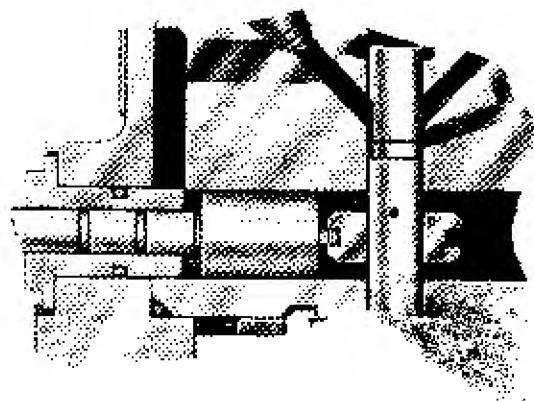

FIGURE 3-23. NORMAL DELIVERY
**Normal Delivery:** For normal delivery (Figure 3-23) the sleeve moves only part way up before the spill port opens to dump the high pressure.